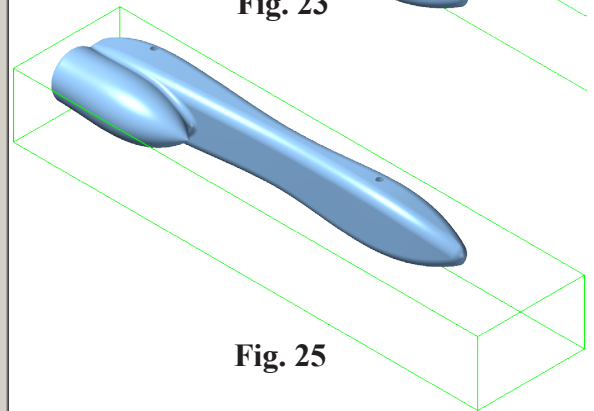

Fig. 25
Step 5. Click OK  to close the Translate dialog box, Fig. 25.